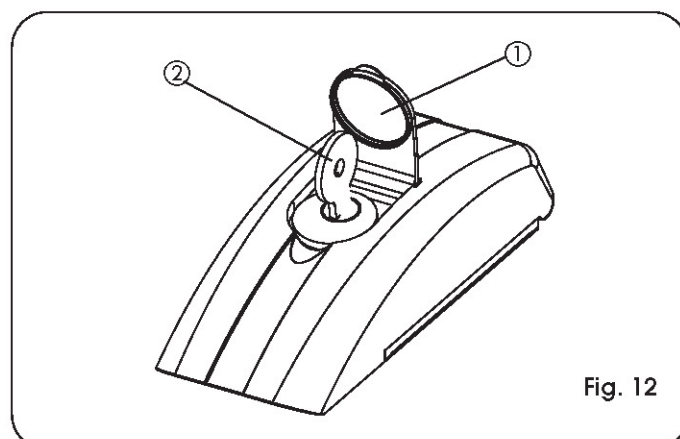

Fig. 12
- Lift the protective plug (Fig. 12, ref. 1) and fit the supplied key (Fig. 12, ref. 2).